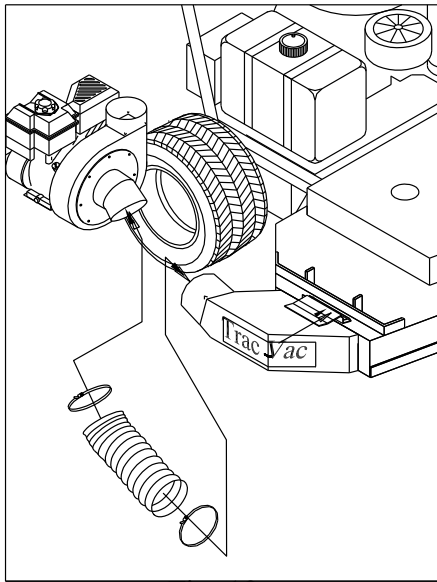

Fig. 13
13. Slip 8" band clamp (23) over each end of the 8" x 24" hose (24). Slip one end of hose over inlet (6) and the other end over neck on chute (34). (Fig. 13)